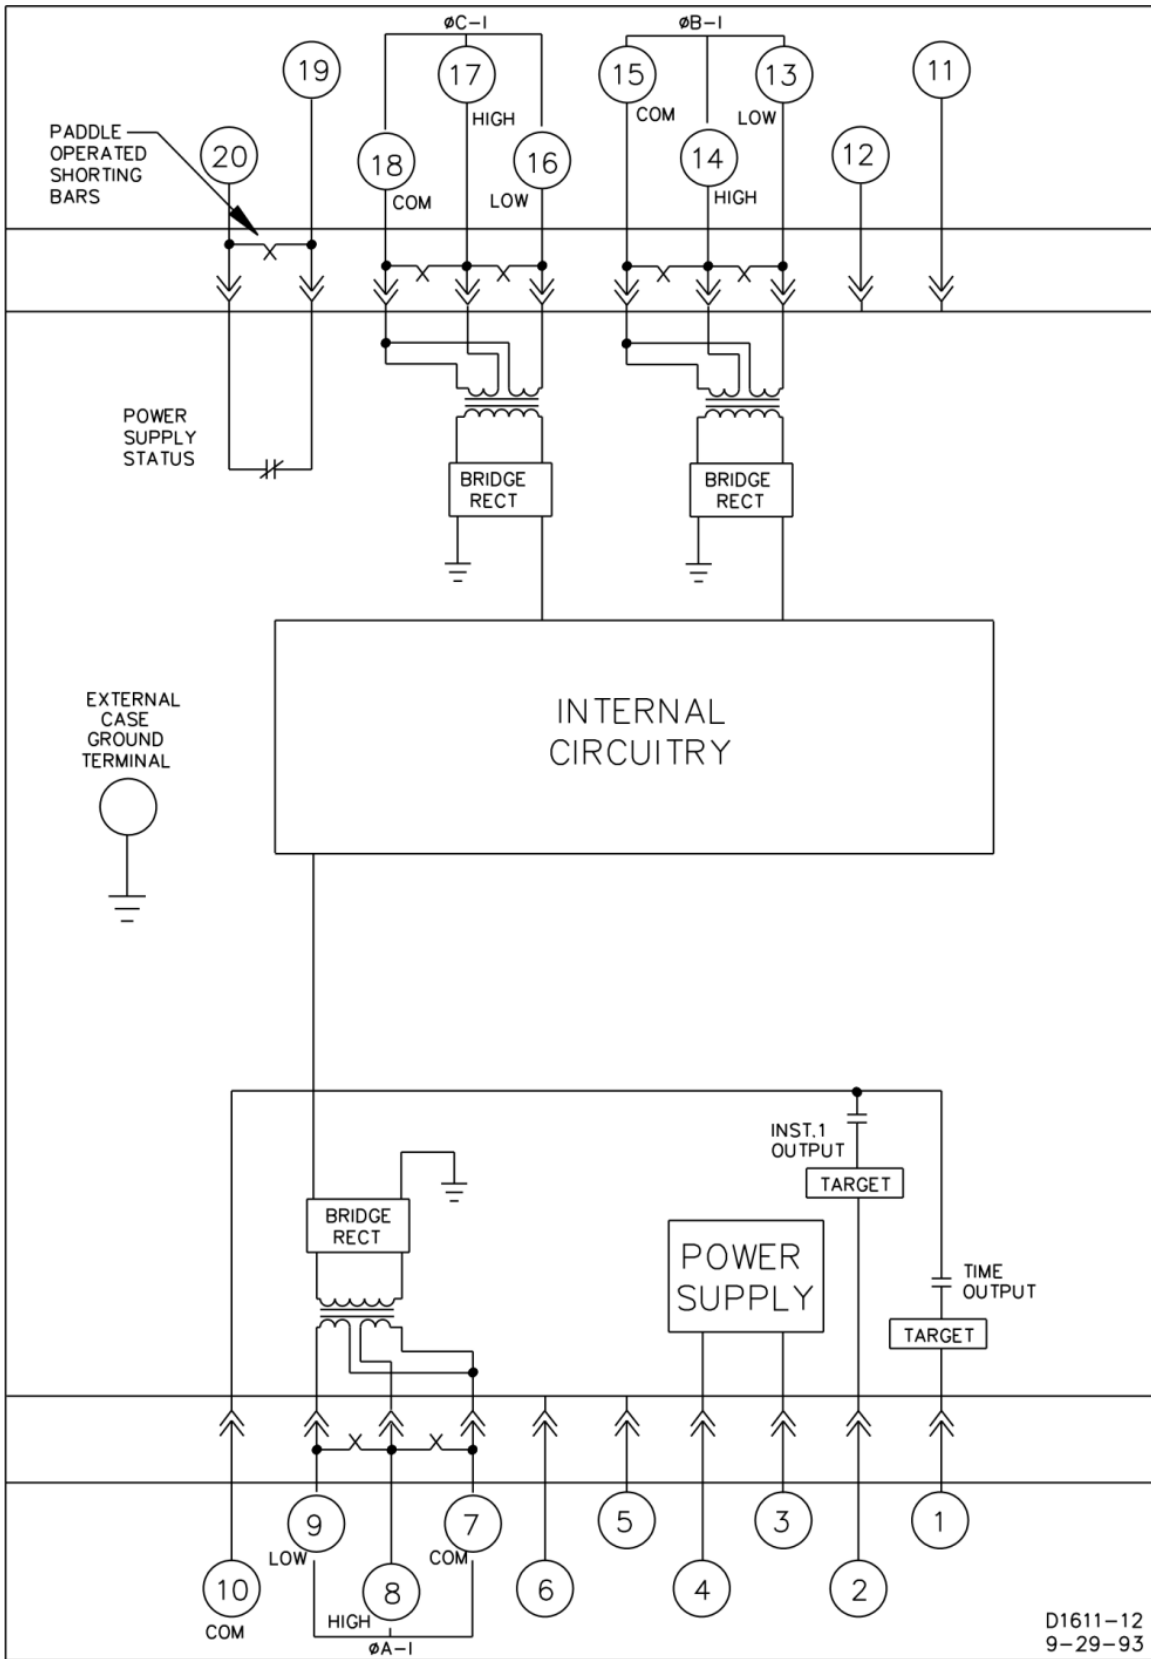

Figure 4-19. Typical Internal Diagram, Sensing Input Type G
- Figure 4-19: Typical Internal Diagram, Sensing Input Type G